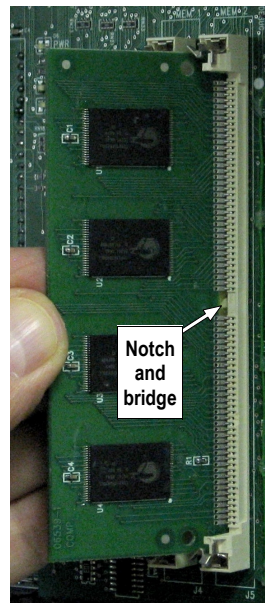

Fig. 3: Align the module.
6. **Align the Memory Module:** With the module angled to the left, align the module with the socket, then completely insert the module into the socket as shown in Fig. 3, below.